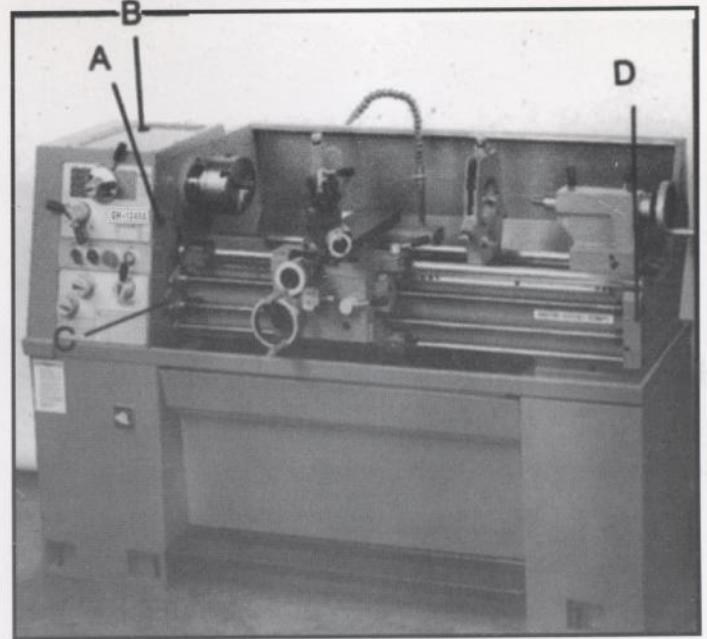
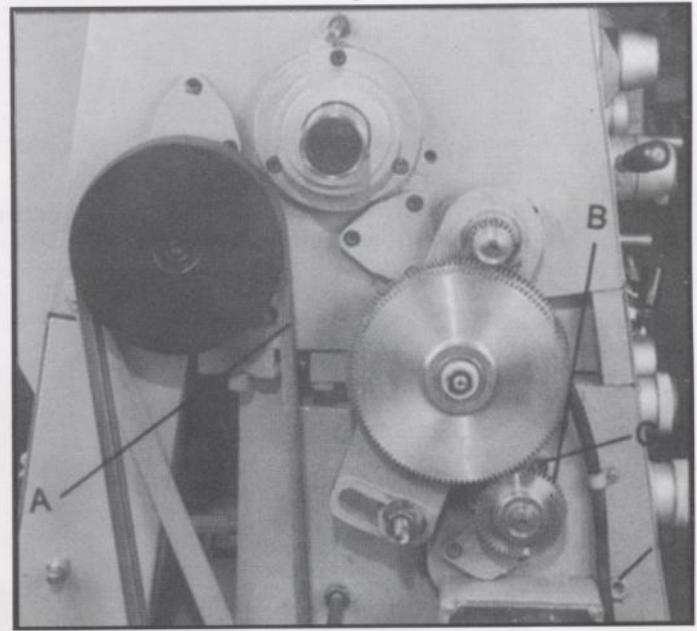

Fig.3
Fig.4
- Headstock**-Oil must be up to indicator mark in oil sight glass (A,Fig.3). Top off with Shell Turbo T-68 or equivalent. Fill by pulling plug(B,Fig.3). To drain, remove drain plug(A, Fig.4)with an 8mm hex wrench. Drain oil completely and refill after the first three months of operation. Then, change oil in the headstock annually.
- Gearbox Input Shaft**-Remove end gear cover and oil the gearbox input shaft where it exits the headstock bracket(B,Fig.4)with the oil can using 20W machine oil. Oil once daily.
- Gearbox**-Oil must be up to indicator mark in oil sight glass(C,Fig.3). Top off with Shell Turbo T-68 or equivalent. Fill by removing plug (C,Fig.4)with an 8mm hex wrench. To drain, remove drain plug(D,Fig.4)with an 8mm hex wrench. Drain oil completely and refill after the first three months of operation. Then, change oil in the gearbox annually.
- Leadscrew Feed Rod**-lubricate ball oiler(D, Fig.3)on leadscrew/feed rod bracket with 20W machine oil once daily.